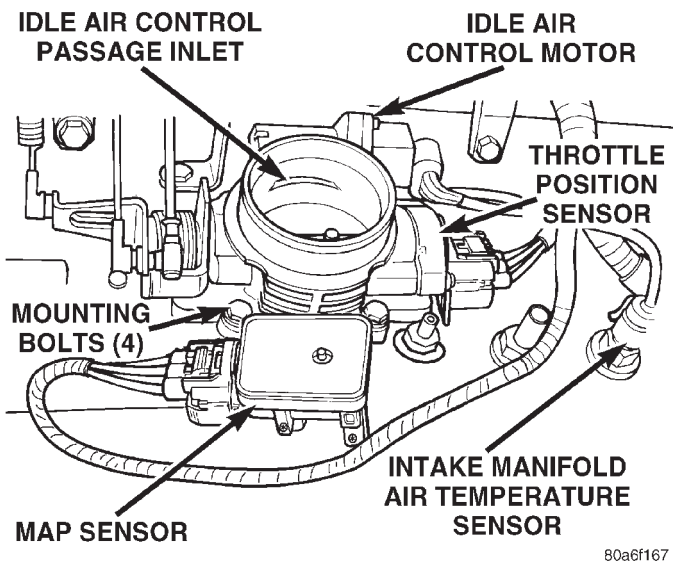

Fig. 66 Throttle Body and Sensor Locations—4.0L Engine
- (1) Remove the air cleaner duct at throttle body.
- (2) Disconnect throttle body electrical connectors at MAP sensor, IAC motor and TPS (Fig. 66).